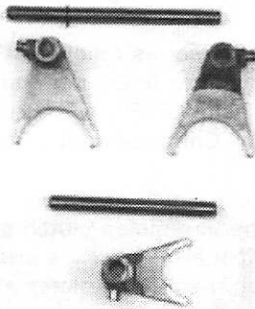

Figure 48
1. Check the condition of each shift fork (Figure 48). Look for signs of bending, twisting or damaged bores. Check the engagement pegs for severe wear or damage.
2. Check the fork spindles (Figure 48) for galling, severe wear and bending. Check the retaining ring and groove in the long fork spindle for damage.